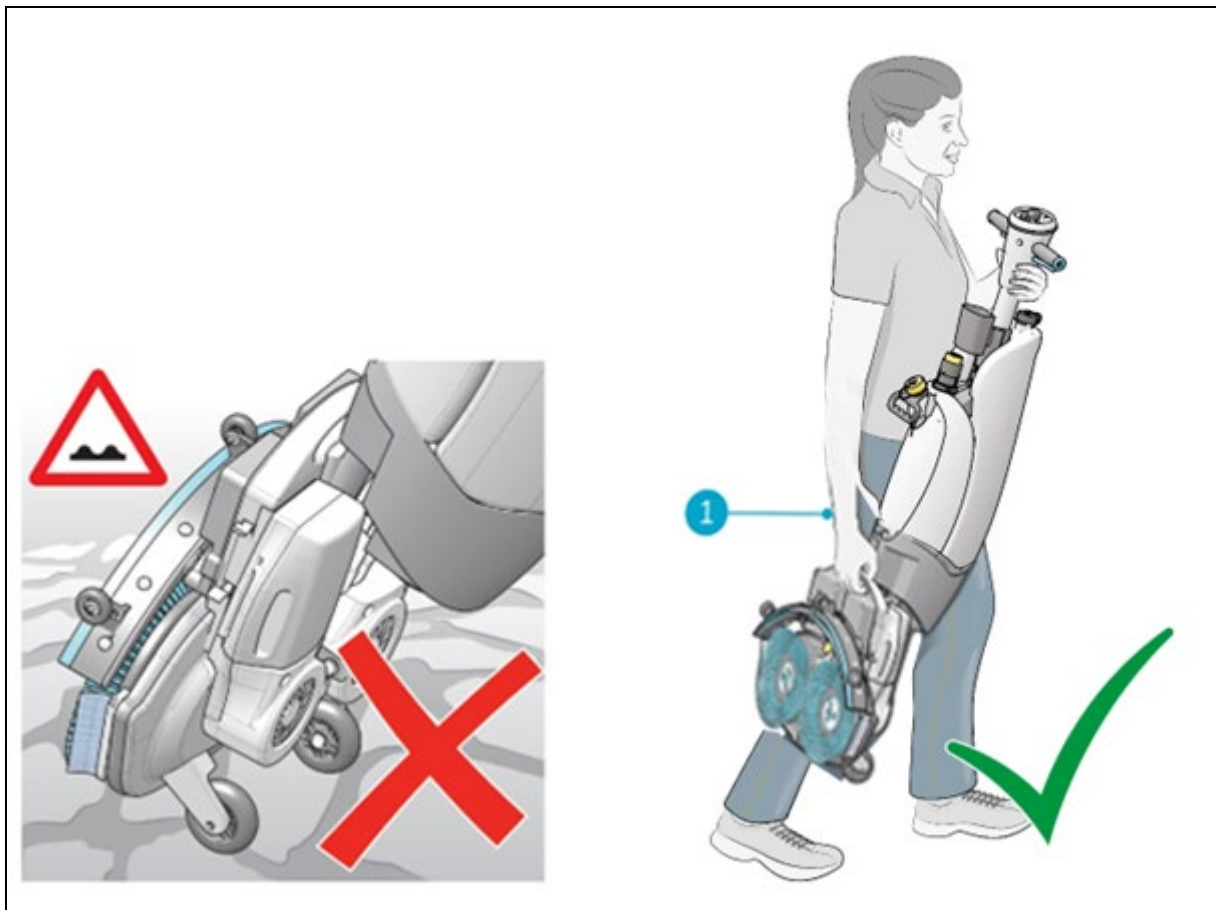

Figure 5
2. Carry the i-mop XL plus with one hand while holding the handle (Figure 5, pos 1) with your other hand.